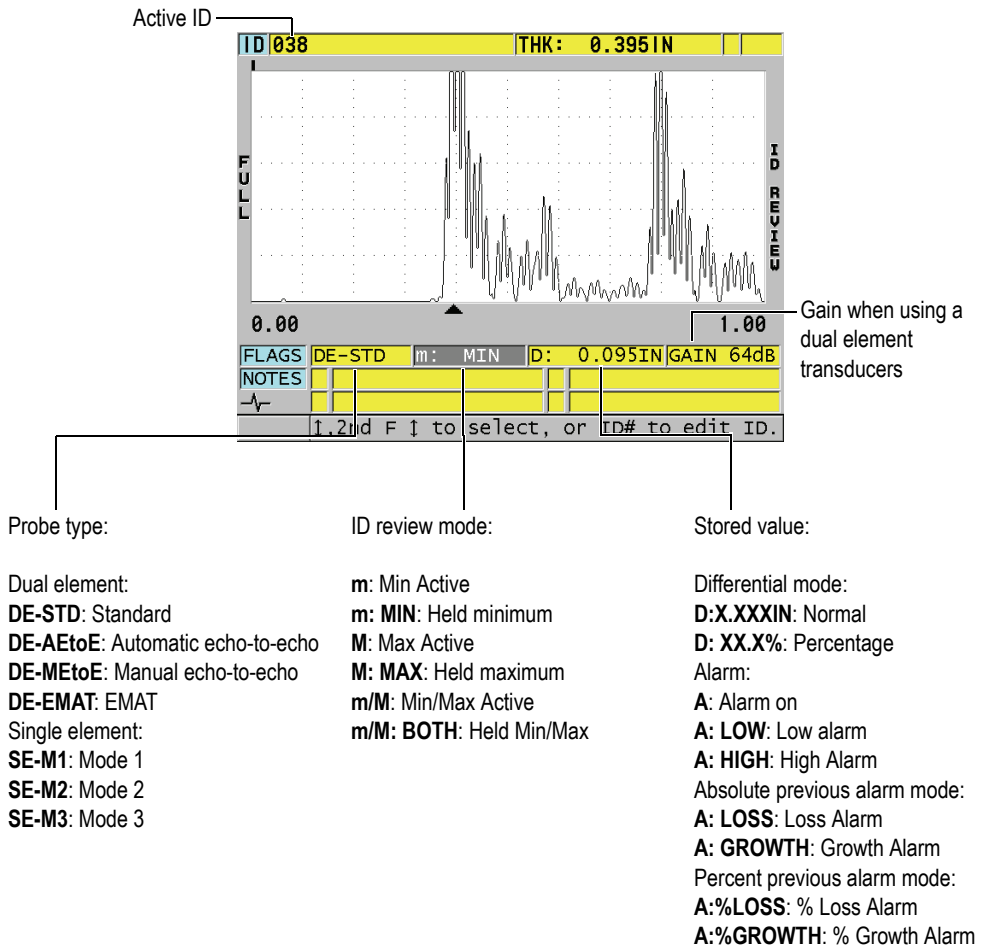

Figure 11-27 Identifying the ID review screen
Figure 11-27 on page 195 shows an example of ID review screen and describes its contents. The area under the waveform is reserved for status flags describing the displayed stored thickness values. The flags are the same single letter abbreviations for status words that are transmitted by the gage using the send commands (see section 14 on page 241).
3. While in the ID review screen (see Figure 11-27 on page 195):